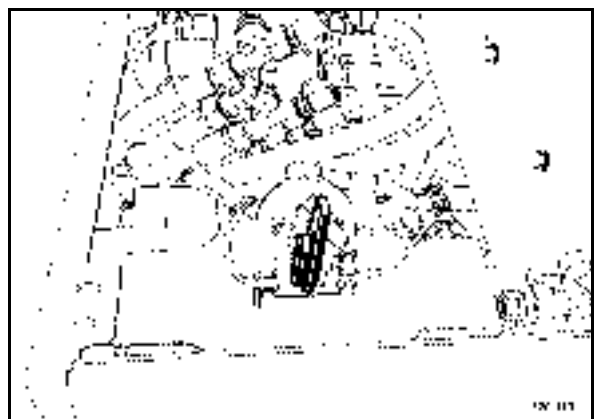

Fig. 31
- Switch on the main battery switch (Fig. 31).